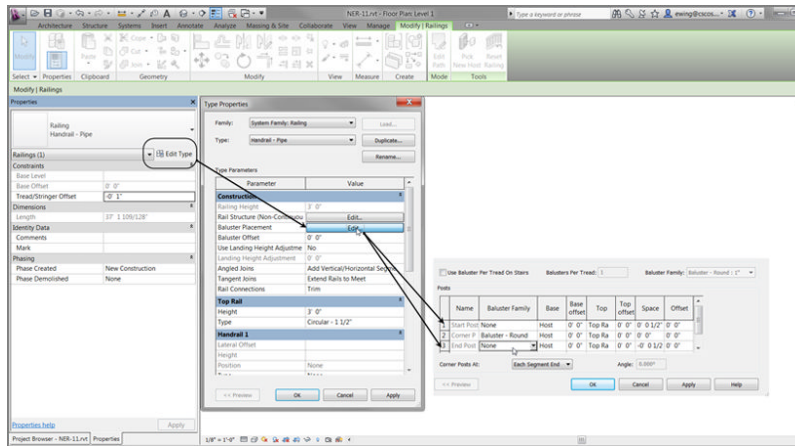

FIGURE 10.23: Configuring the default settings for the railing type Handrail - Pipe - Horizontal Railing
8. Select None for the Start and End posts under the Posts category, as shown in Figure 10.23.